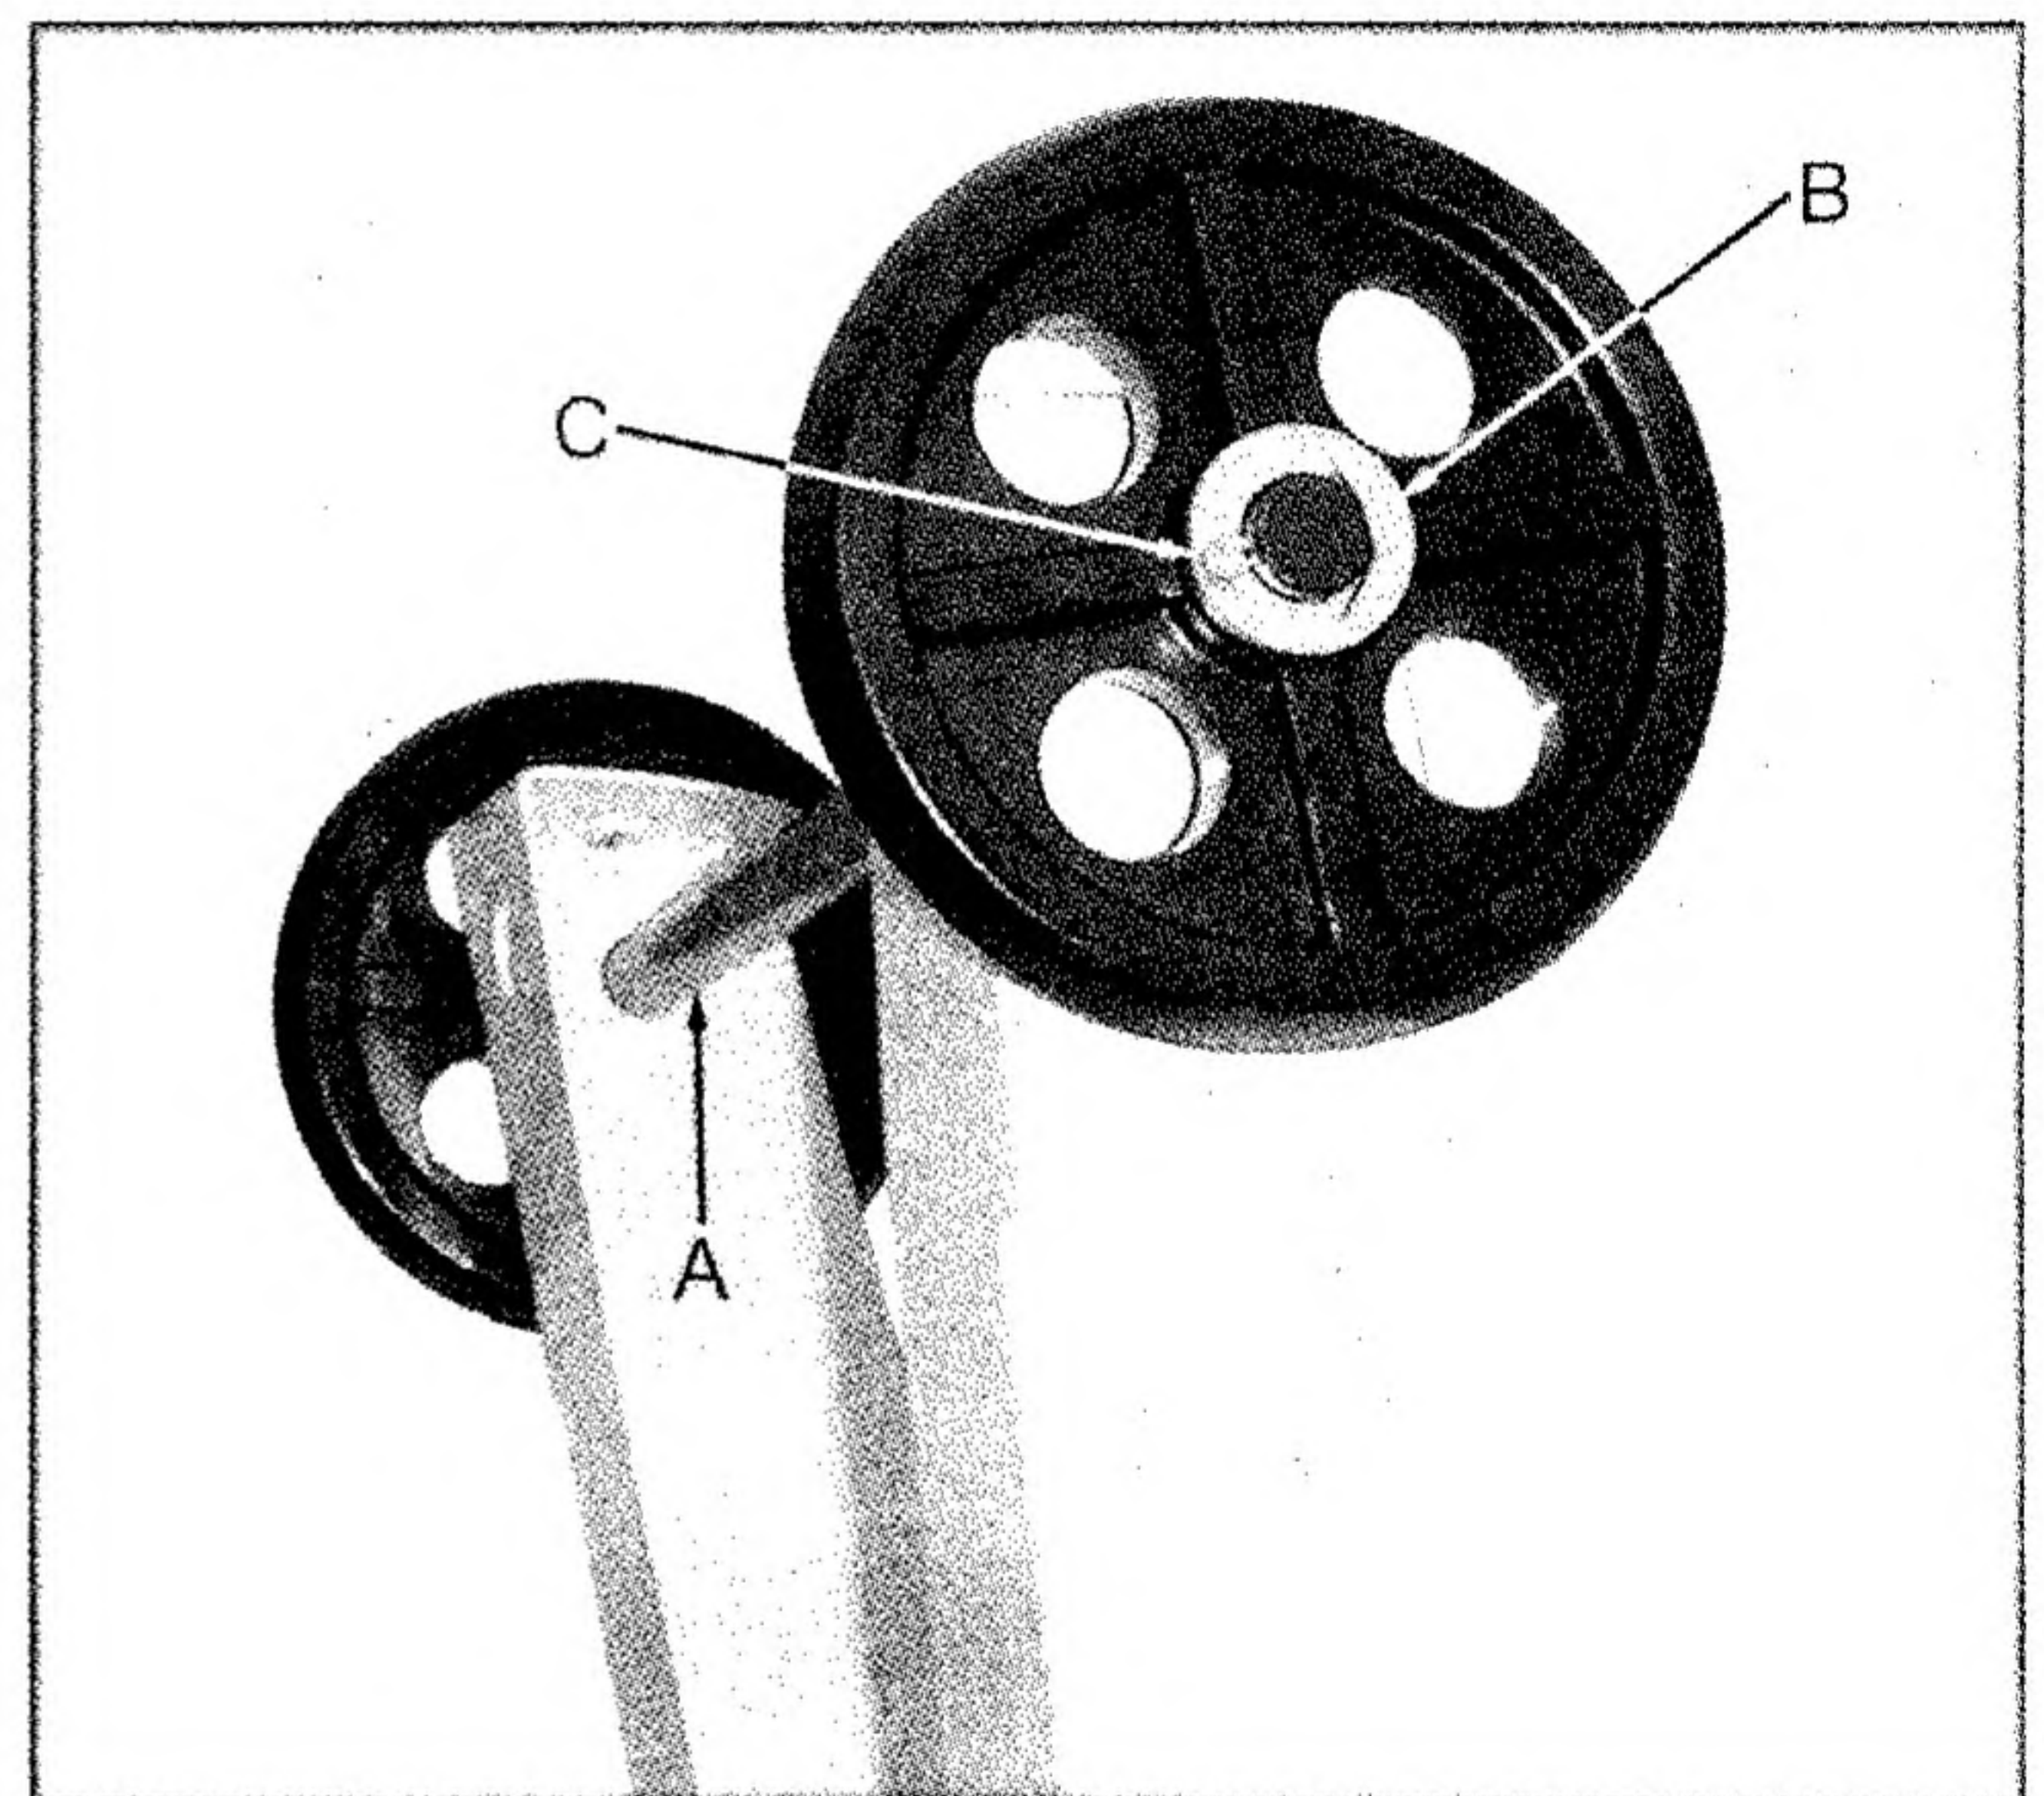

Fig. 3
8. Slide the axle (A, Fig. 3) through the legs. Place a large flat washer (B, Fig. 3) on both sides of the wheels and place on the axle. Secure wheels with two split pins (C, Fig. 3).